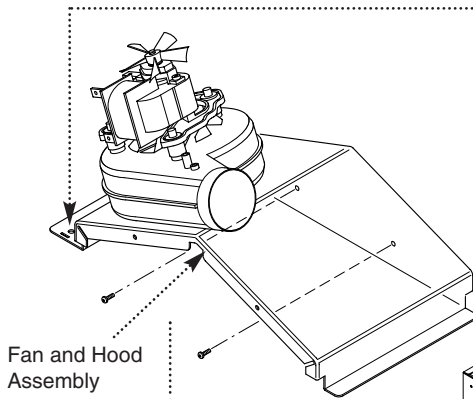

Fig. 45
11. Undo the screws securing the fan hood assembly to the appliance back panel, and draw the fan and hood assembly forwards (Fig. 45).